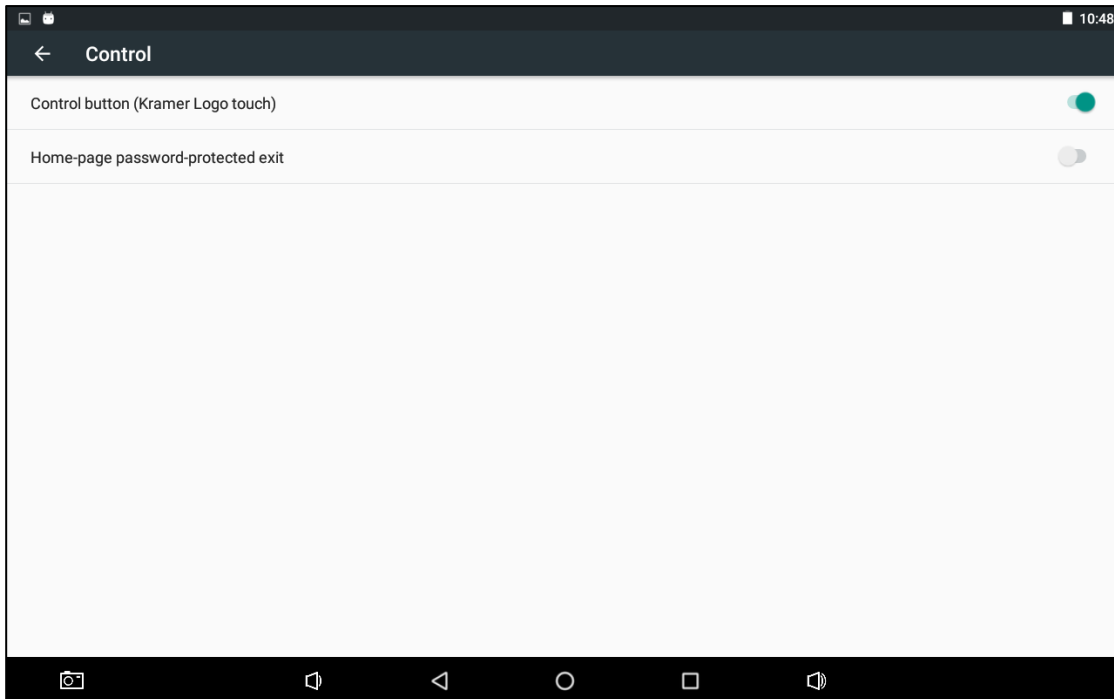

Figure 25: Control Button Activation
3. Select **Home-page password-protected exit** to enable or disable this feature (see Figure 25).